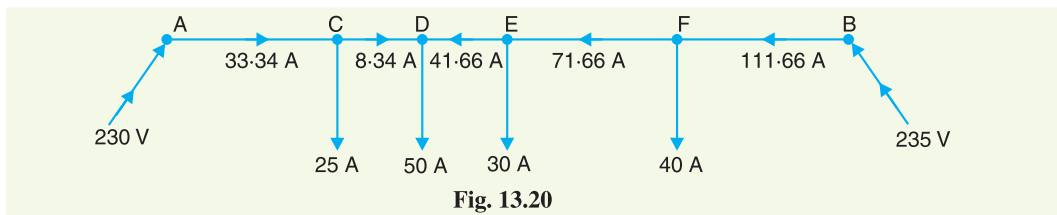

Fig. 13.20
- (ii) The actual distribution of currents in the various sections of the distributor is shown in Fig. 13.20. The currents are coming to load point D from both sides of the distributor. Therefore, load point D is the point of minimum potential.